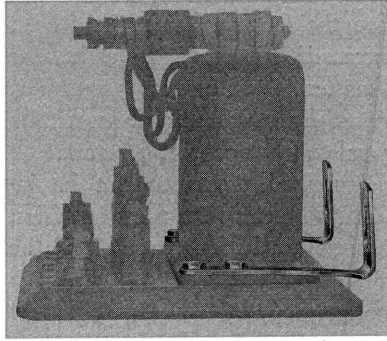
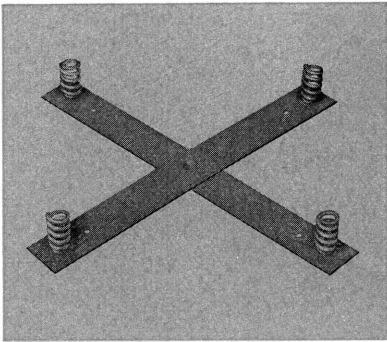
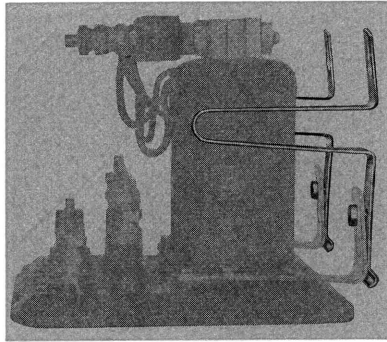
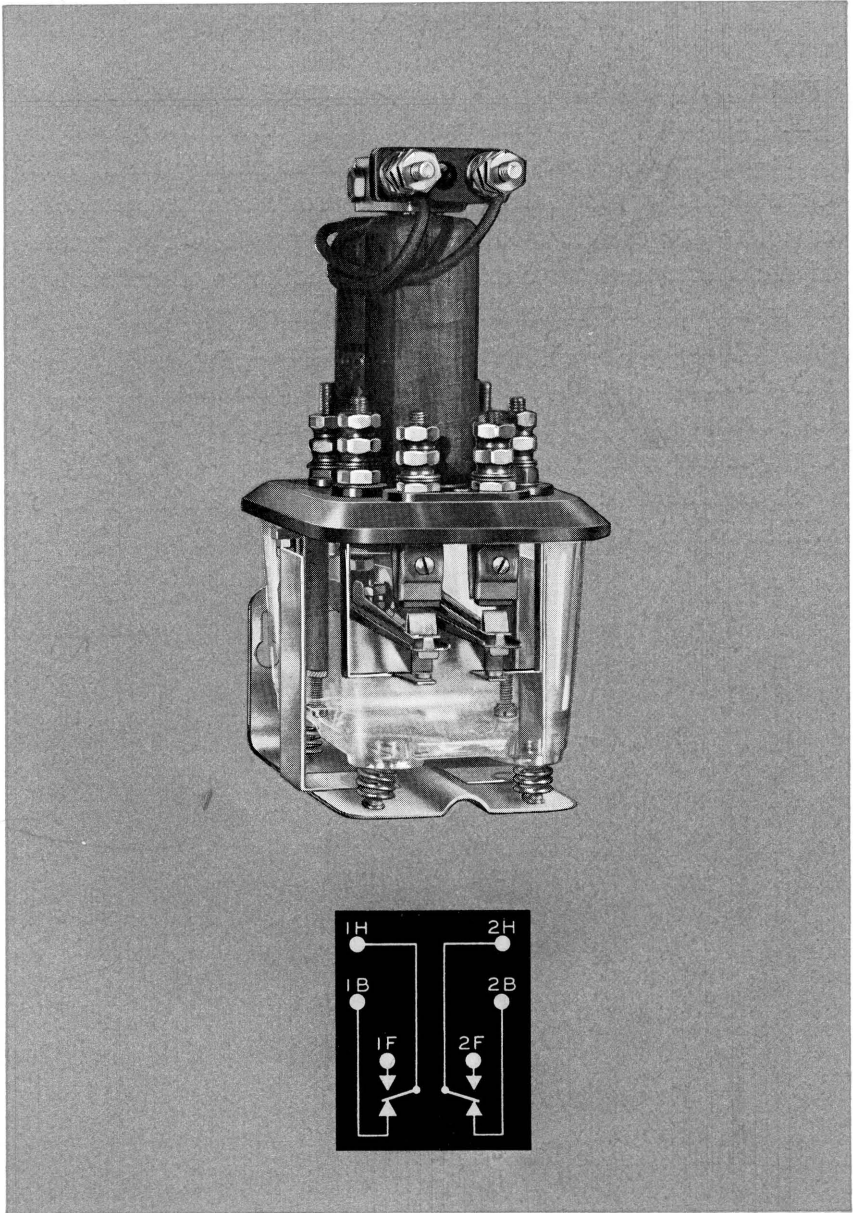

Figure 7. Wall Mounting Shock-absorbing Brackets.
Figure 8. Shelf Mounting Shock-absorbing Base.
Figure 9. Special Shock-absorbing Brackets.
Figure 10. The Type K Neutral Relay, Size Two, and its Terminal Arrangement.
Wall mounting shock-absorbing brackets, Figure 7, are standard equipment on all models with the exception of the small Type K Relay, Size 2, which is supplied with a special base suitable for wall or shelf mounting. This base is shown in Figure 10. The larger Type K Relays have a separate coil-spring base, Figure 8, for shelf mounting. At locations where relays are subjected to severe vibration, special brackets similar to those shown in Figure 9 are recommended for wall mounting.
This relay, Figure 10, is built with the same exacting care and of the same high grade materials used in standard Type K Relays, the essential difference being that fewer contacts are operated; thus allowing smaller coils and a smaller magnetic structure for its operation.
- Contacts:** Two front and back dependent contacts as shown in Figure 10.